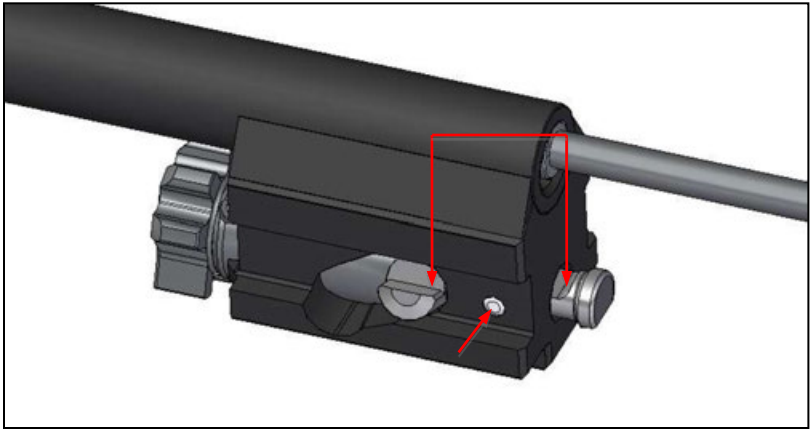

Figure 3.4 – Bolt (close up)
1. The flat surface on the cam pin as well as the firing pin must face up. Make sure the firing pin is locked by its pin and protrudes behind the bolt carrier (Figure 3.4).